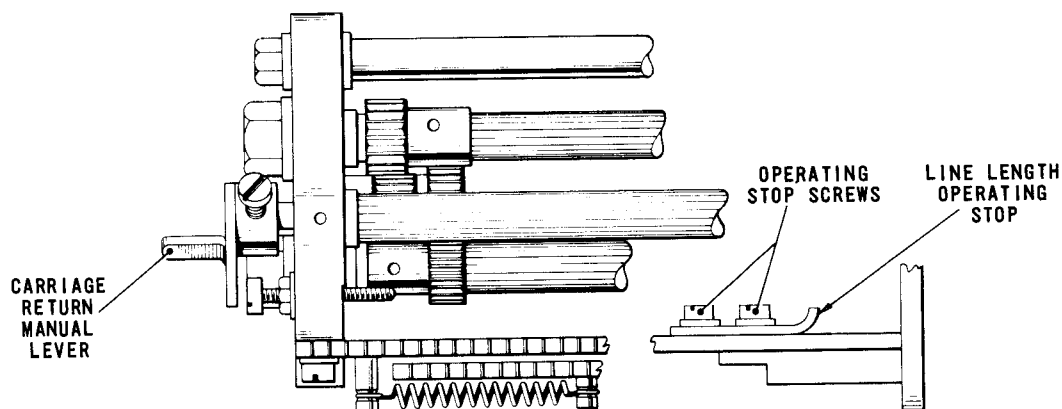

Fig. 4.70 TYPEHEAD CARRIAGE—PLAN VIEW
- 86.2 If this is not so, slacken the screw securing the carriage return manual lever, Fig.4.70, and reposition the lever with respect to the splined shaft. Tighten the screw.
- ★ The printing line length can be adjusted between 69 and 74 characters depending on the width of the left-hand margin and the position of the line length operating stop, Fig.4.70, at the right-hand end of the typehead carriage unit. The adjustment of the left-hand margin is given in Adjustment No.49 on page 38. The following instruction is concerned only with the position of the line length operating stop.
- 88.4 To adjust, return the machine to the rest position and operate the carriage return manual lever, Fig.4.70, so that the typehead carriage is returned to its extreme left-hand position. Slacken the screws securing the line length operating stop until friction tight and move the stop to the right as far as it will go.